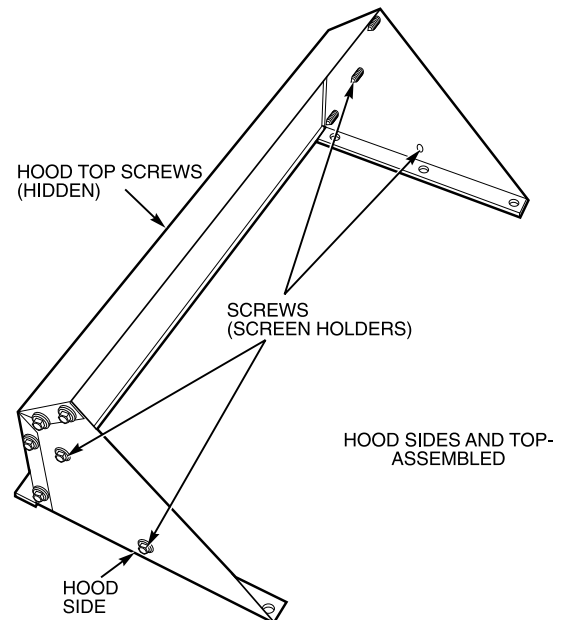
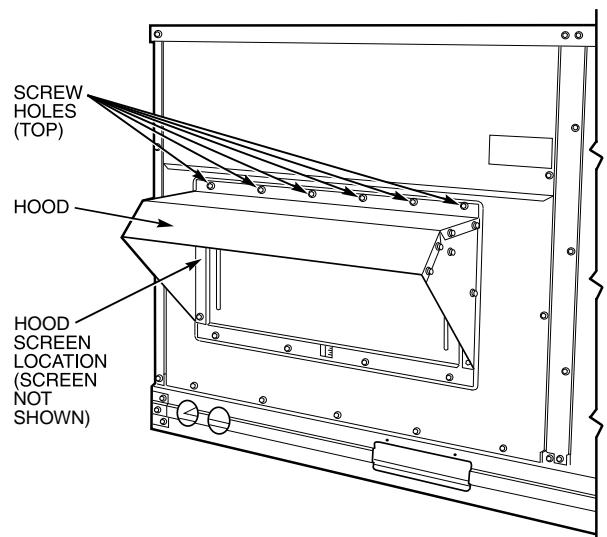

Fig. 15 — Outdoor-Air Hood Details
Fig. 16 — Damper with Hood Attached
5. Place hood on front of outdoor-air opening panel. See Fig. 15 for hood details. Secure top of hood with the 6 screws removed in Step 3. See Fig. 16.
7. Align screw holes on hood with screw holes on side of manual outdoor-air damper. See Fig. 15 and 16. Secure hood with 8 screws from Step 6.
9. Remove and save screws currently on sides of hood. Insert screens. Secure screens to hood using the screws. See Fig. 16.